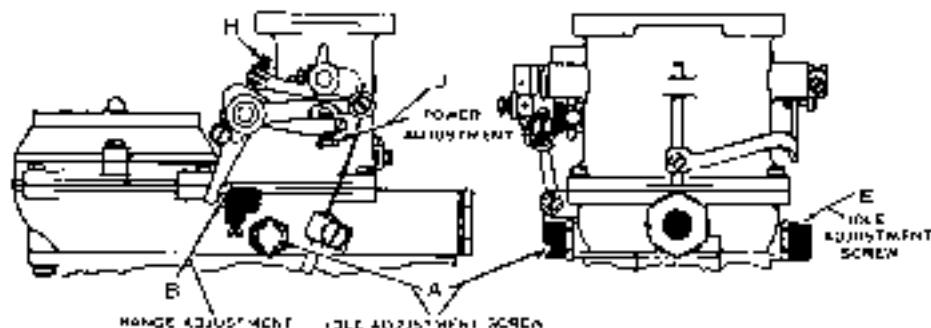

Fig. 10.
Idle Adjustment.—The duplex carburetor has two idle adjustments (A, Fig. 10) and (E). Before making any carburetor adjustments warm up the motor to average driving temperature. Both adjustments (A) and (E) turn in the same direction for rich and lean. Turning these adjustments to the right (clockwise) makes the mixture leaner and to the left (counter-clockwise) makes the mixture richer.
The adjustment is made by turning the range adjusting screw (B, Fig. 10) to the left for a lean mixture and to the right for a rich mixture in the driving range.
Power Adjustment.—The carburetor will give the best mixture for speed and maximum power on the hills when the bottom of the head of power screw (J, Fig. 10) is setting so that it measures $7/32$ inch to the arm that holds screw (J). On the later Duplex carburetors there is a small pin located at the side of screw (J) and the original factory setting is to have the bottom of the head on screw (J) flush with the bottom of the pin. In high altitudes more power can be obtained by turning up on the power mixture—turning screw (J) to the left (counter-clockwise) 3 to 5 complete turns. Turning screw (J) to the right enriches the power mixture.